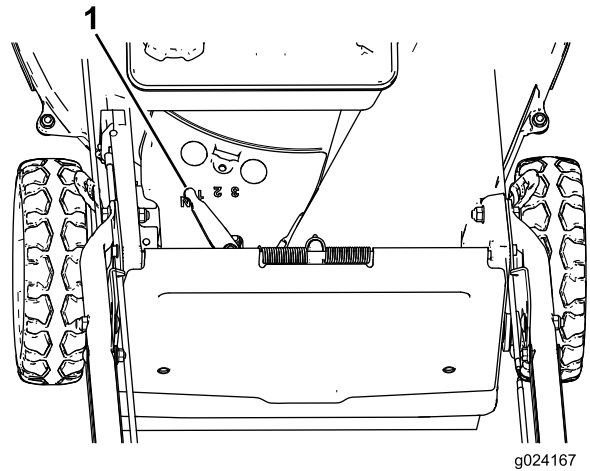

Figure 18
This machine has 3 ground speeds: 1 (slow), 2 (medium), and 3 (fast); it also has a Neutral (N) position. The self-propel-drive lever is located below and behind the fuel tank (Figure 18).